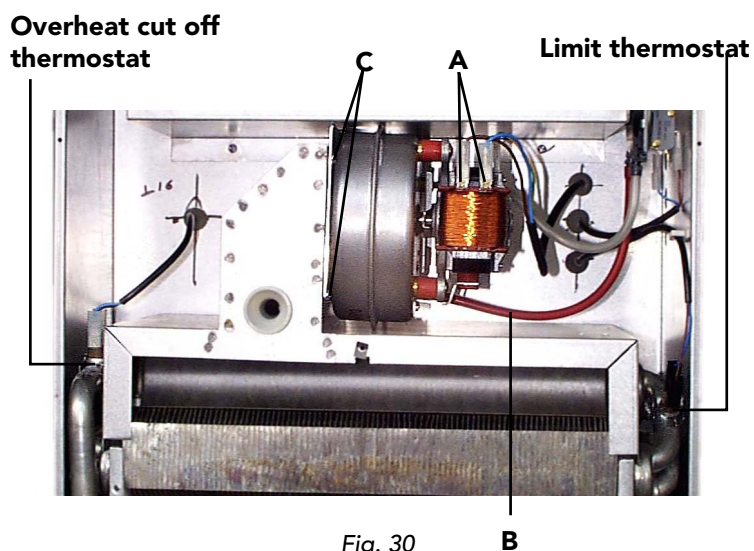

Fig. 30
### 7.11 Removal of fan (fig. 30)
### 7.12 Limit thermostat, or overhear cut off thermostat (fig. 30)
- Identify the location of thermostat from fig. 30